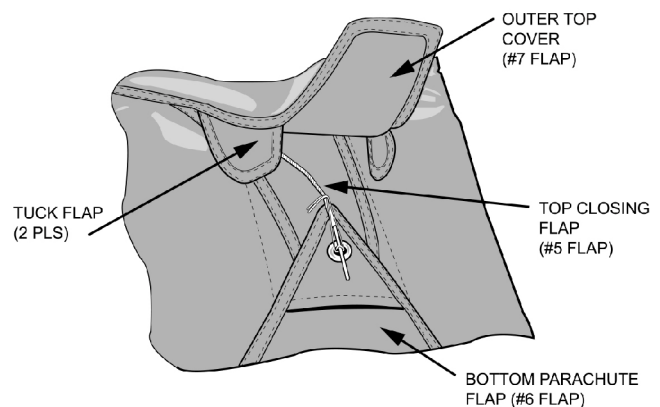

**Figure 17. Ripcord Secure Tie**
a. Using a 12-in. length of size A thread, single and waxed, form Lark's head knot above ripcord pin ferrule. Tie two half hitches around ripcord cable above ripcord pin ferrule. Separate thread and route one thread under ripcord pin and against closing loop, tie with a surgeon's knot, followed by a square knot followed by a binders knot. Trim off excess thread (Figure 17).